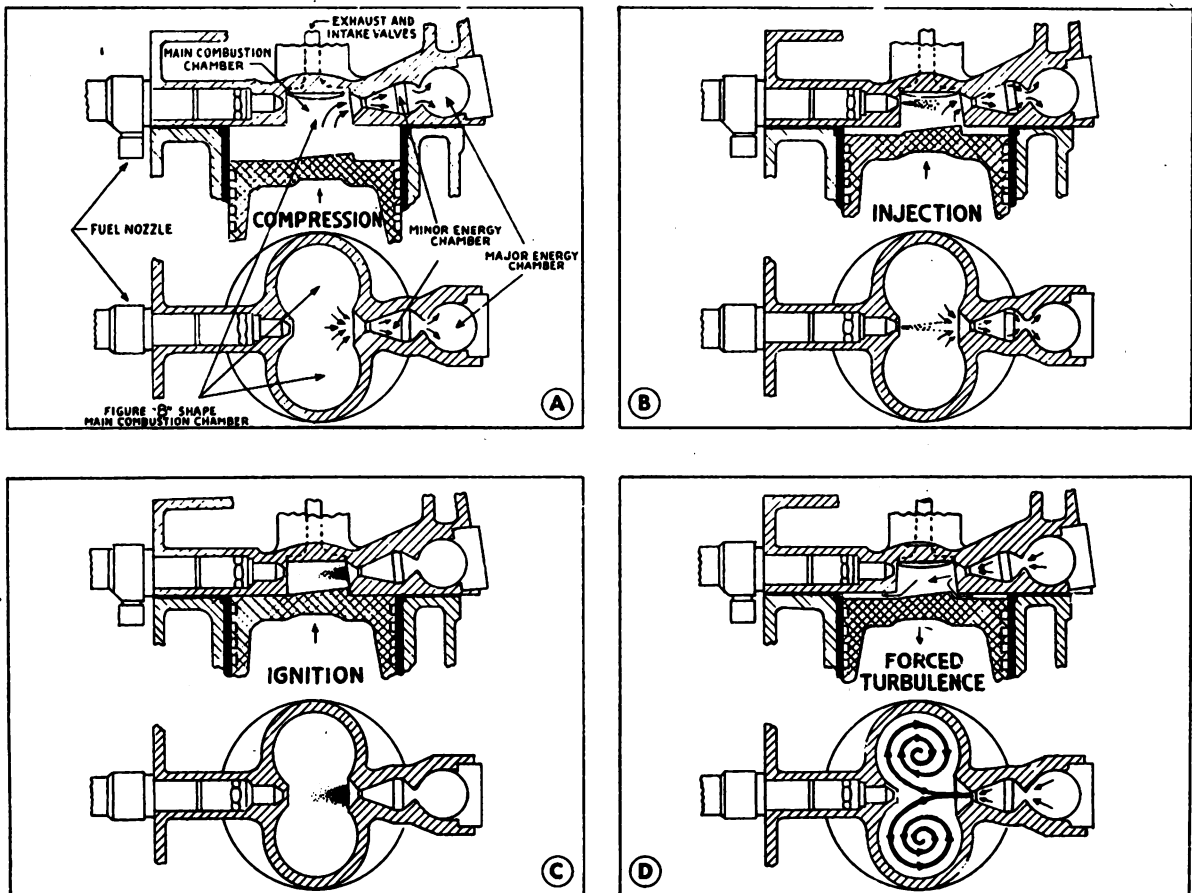

Fig. 4. Buda-Lanova Combustion Principle
**4. Low Pressure Combustion.** In the Budalanova combustion chamber, the clearance volume above the piston consists of three chambers. The main chamber is in the shape of a figure 8, which also forms the housing for the intake and exhaust valves. (See Figure 4.) The two auxiliary chambers of the energy cell are located directly opposite the injection nozzle. Beginning with the compression stroke and ending with the expansion or power stroke, four events or actions take place. These are designated as (a) compression period, (b) injection period, (c) ignition period, (d) controlled turbulence period. Figure 4, with the following explanation, illustrates the occurrences during each of these four periods.
*a. Compression Period.* Referring to Figure 4, illustration A, note that the air is compressed in the main chamber and also forced into the energy cell during the compression stroke. This energy cell is divided into a major and a minor cell. A predetermined portion of air is forced back into the minor and major energy cells as indicated by the arrow.